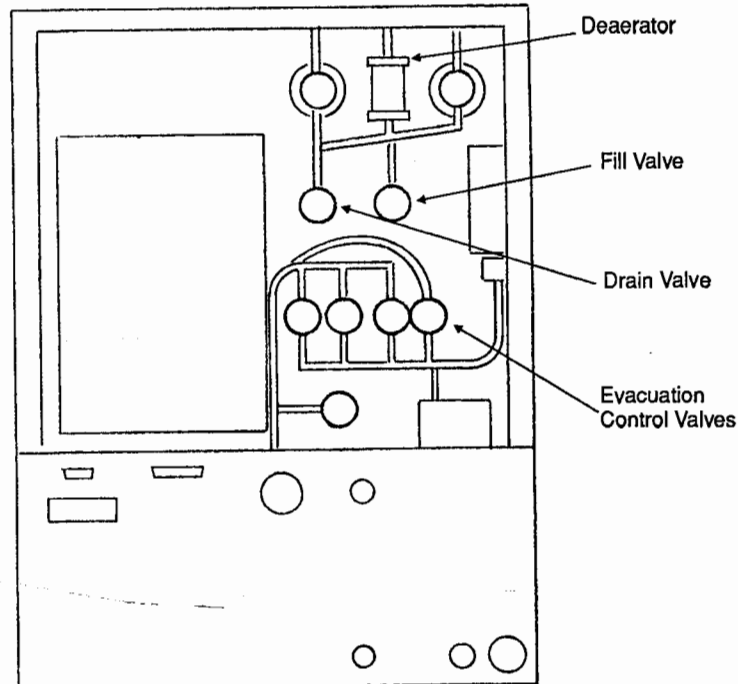

Figure 8-7. Low Pressure and Mercury Handling Manifolds
6. Momentarily press the MERCURY FILL button while the assistant observes the deaerator (refer to Figure 8-7). Immediately release the MERCURY FILL button when mercury starts spurting into the deaerator.
3. The fill and drain valves are the upper two (refer to Figure 8-7). Remove the 11/16-in. nut retaining the valve actuating coil from each and pull the coils off.